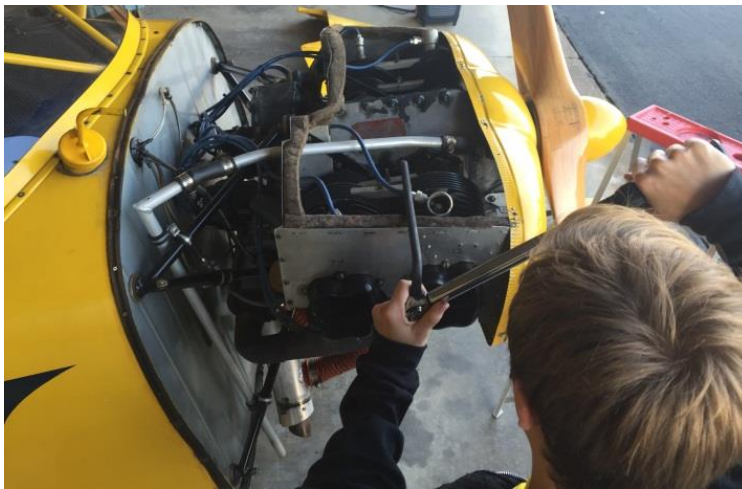

Figure 3. Mechanic applying torque to through bolts.
- Use a calibrated torque wrench to measure the amount of twisting force applied to a nut or bolt (see figure 3). Verify that your wrench is calibrated and check that the wrench is not damaged to ensure continued accuracy.